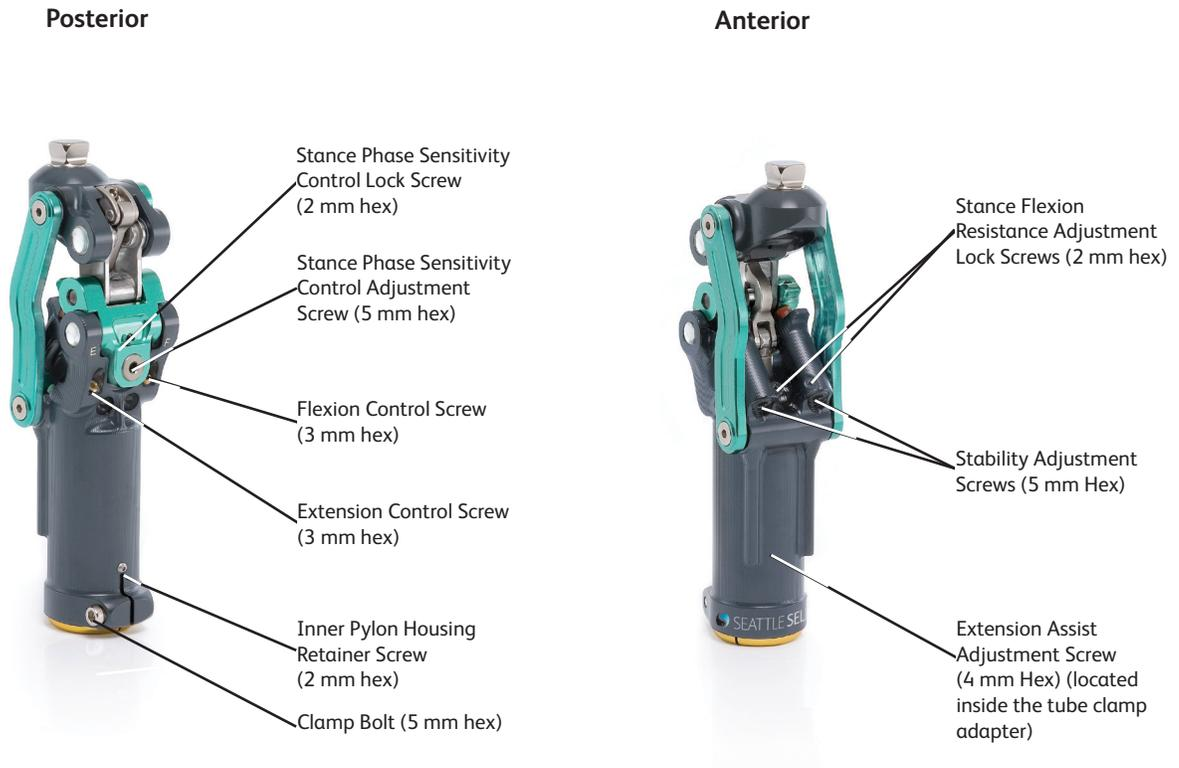

Figure 1. SSK615 and SSK615-THR Knee adjustment locations (SSK615 Select Stance Flexion Knee shown).
5. Using a torque wrench, tighten the Clamp Bolt (FIGURE 1) to 7.3Nm (5.4 ft-lbs or 65 in-lbs) using a 5mm hex wrench.
1. Locate the Stance Phase Sensitivity Lock Screw on the posterior of the knee (FIGURE 1). Using a 2 mm hex wrench, loosen the lock screw. **NOTE: This screw is located vertically along the knee body**
2. Locate the Stance Phase Sensitivity Control Adjustment Screw, (FIGURE 1) on the posterior of the knee. Using a 5 mm hex wrench:
1. Locate the two Stance Flexion Resistance Adjustment Lock Screws on the anterior of the knee (FIGURE 1). Using a 2 mm hex wrench, loosen the two lock screws.
2. Locate the Stability Adjustment screws on the anterior of the knee (FIGURE 1). Using a 5 mm hex wrench:
- a. Locate the two Stance Flexion Resistance Adjustment Lock Screws on the anterior of the knee (FIGURE 1). Using a 2 mm hex wrench, loosen the two lock screws.
- b. Locate the Stability Adjustment screws on the anterior of the knee (FIGURE 1). Using a 5 mm hex wrench, remove both of the Stability Adjustment screws.
- e. Re-tighten the Stance Flexion Resistance Adjustment Lock Screws (FIGURE 1).
1. Locate the Flexion and Extension Control Adjustment Screws on the posterior of the knee (FIGURE 1). Using a 3 mm hex wrench: